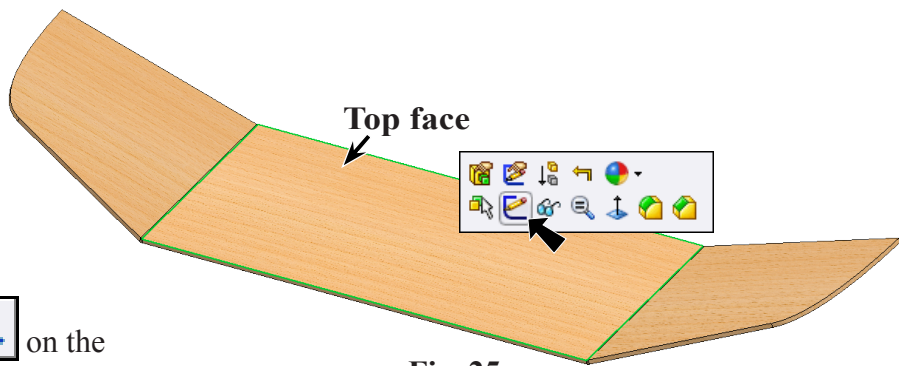

Fig. 25
Step 1. Click the **top face of inboard panel** and click **Sketch**  on the Content menu, **Fig. 25**.